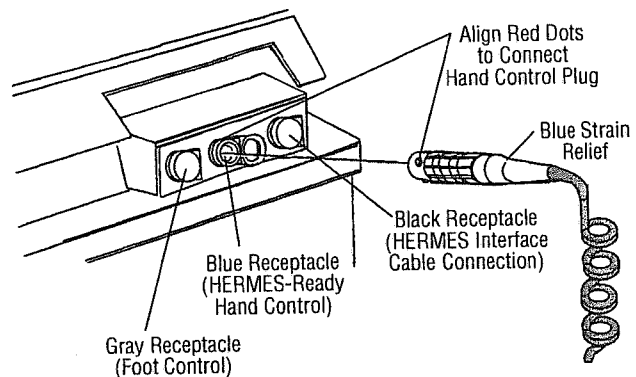

Figure 3-2B. Hand Control Connection for HERMES-Ready 3085 Table
- **HERMES-Ready 3085 SP Tables:** Align the red dot on the blue plug of the hand control cord with the red dot of the blue receptacle on the table, and push into connected position (see Figure 3-2B).